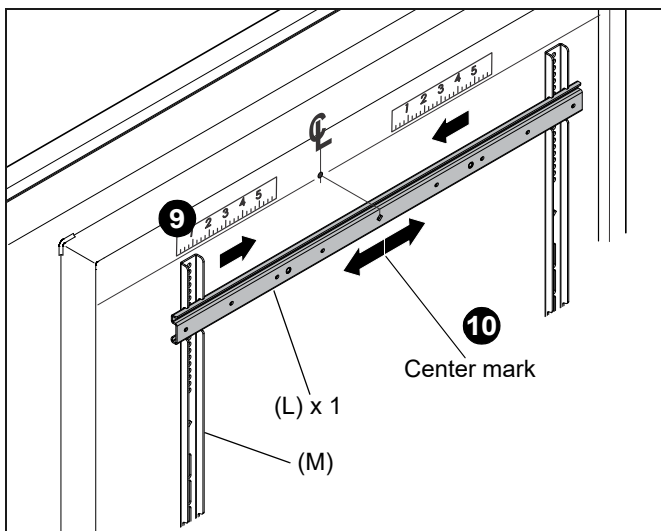

Figure 8
9. Determine and mark the horizontal center position between the left and right TOP mounting holes in display. (See Figure 8)
10. Determine and mark the horizontal center position between the left and right BOTTOM mounting holes in display. (See Figure 8)
11. Orient upper horizontal interface (L) so that flanges are facing towards display and resting in recessed area of left and right vertical interfaces (M). (See Figure 8)
12. Adjust upper horizontal interface (L) position until center diamond in horizontal interface (L) aligns with mark made in Step 9, and mounting holes and slots in horizontal interface (L) are aligned with threaded holes in mounting tabs of left and right vertical interfaces (M). (See Figure 8)